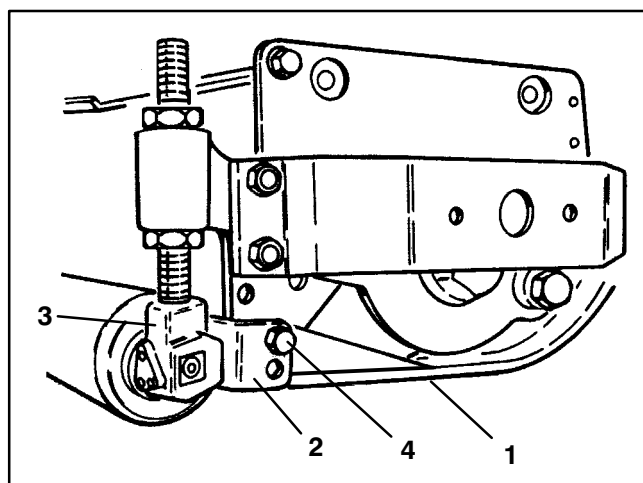

Figure 1
1. Remove bolt and locknut securing skid to roller bracket (Fig. 1).
2. Remove (3) bolts and lockwashers securing roller bracket to roller adjuster (Fig. 1).
2. Pivot skid upward aligning it with top hole in roller bracket (Fig. 1).